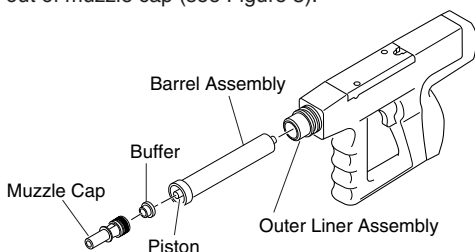

Figure 3 - Separating Barrel Assembly from Housing
5. Pull buffer out of muzzle cap (see Figure 3).